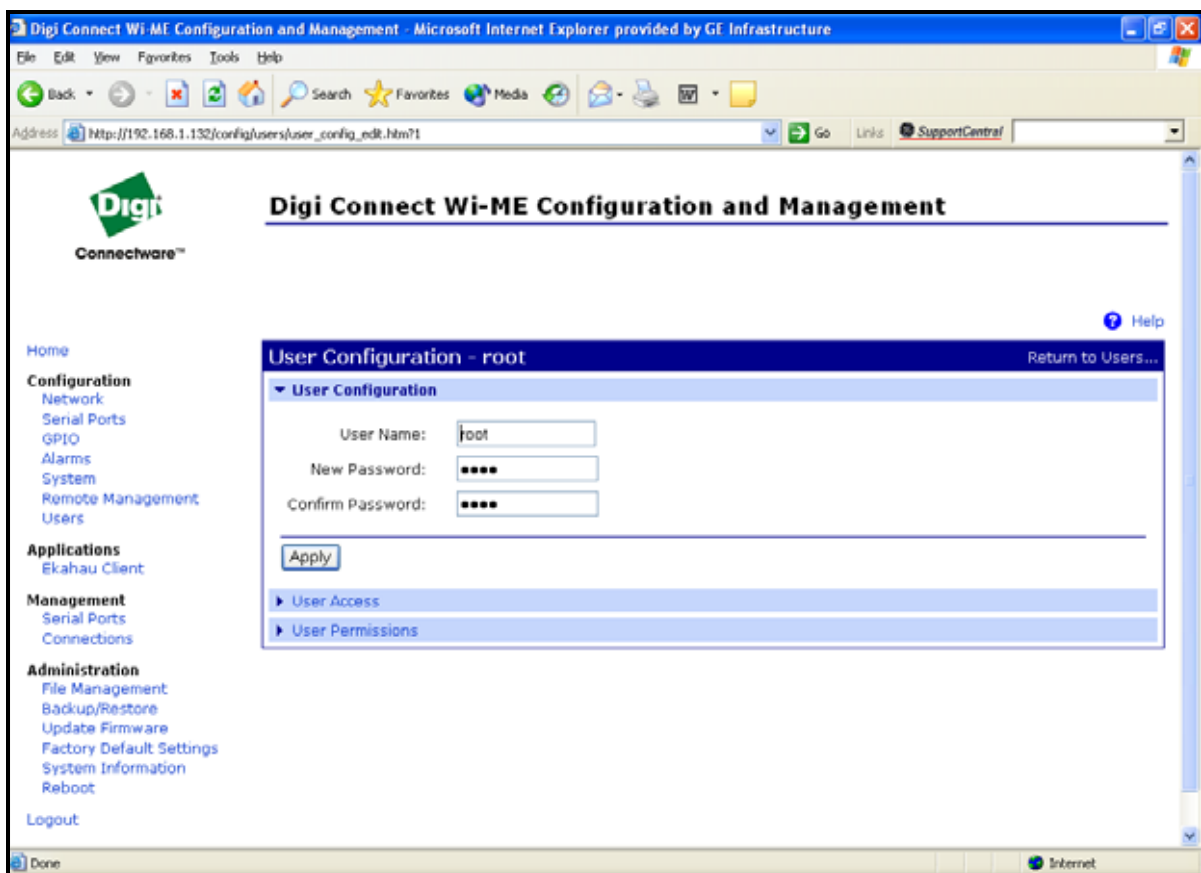

Figure 44: Changing the User Name and/or Password
5. Click on **New...** Figure 44 on page 59 appears.